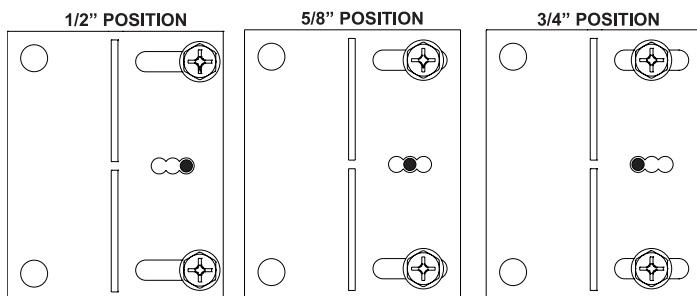

Figure 35
6. Measure from face of fireplace to face of drywall strip to determine final depth and adjust nailing flanges as shown in **Figure 35.**